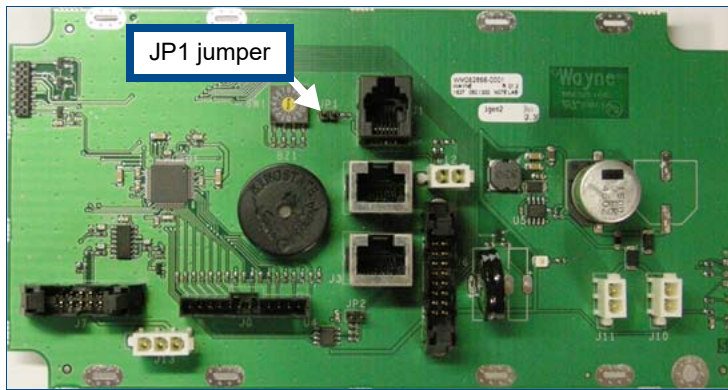

Figure 6-1 Sales Display Board with JP1 Jumper
4. Install the **JP1** jumper on the Sales Display Board. See Figure 6-1 on page 62.
3. Remove the **JP1** jumper on the Sales Display Board. See Figure 6-1 on page 62.
3. Remove the **JP1** jumper on the Sales Display Board. See Figure 6-1.